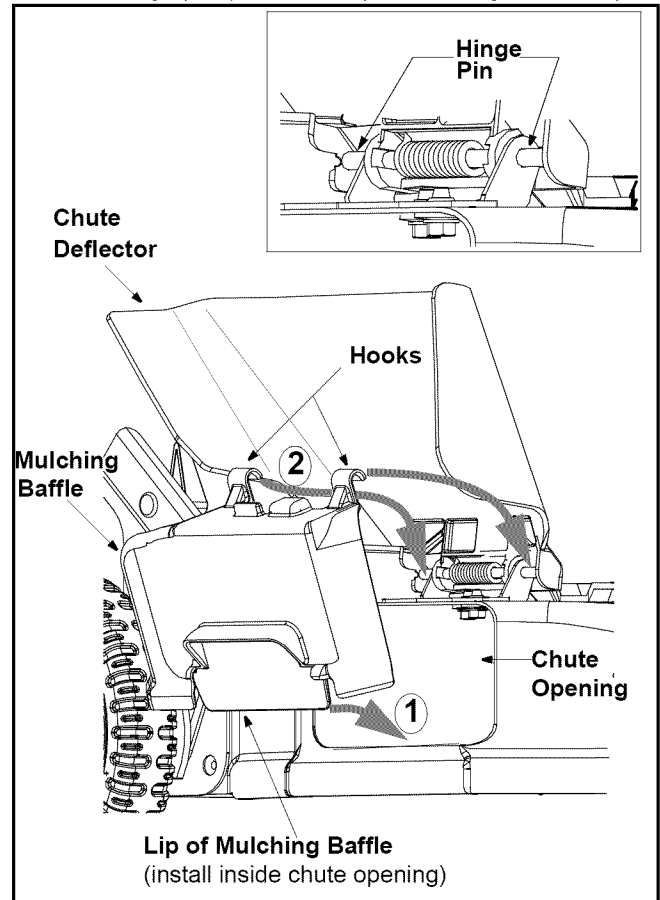

Figure 7
- Insert bottom lip of the mulching baffle **inside** the chute opening. See Figure 7 .
- Snap hooks of the mulching baffle over the hinge pin of the chute deflector. See Figure 7. The hooks must snap into place on the hinge pin, locking the mulching baffle firmly onto the mower. For a close-up of the hinge pin location, see inset.